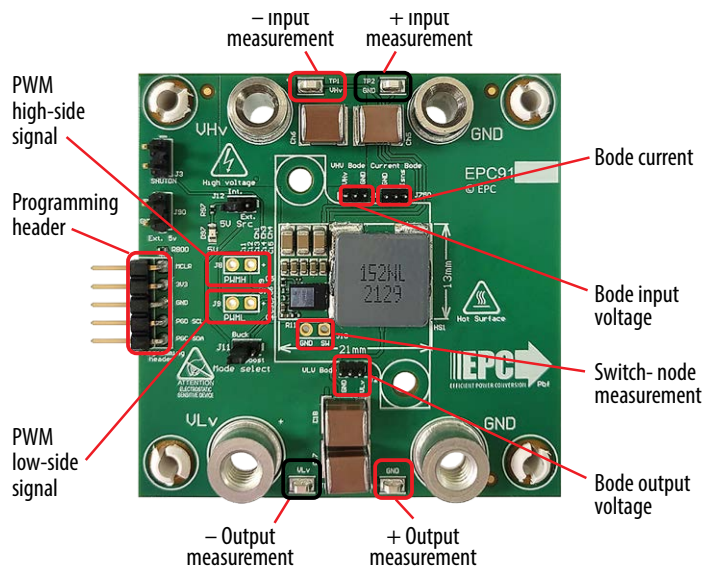

Figure 6: EPC91106 test point pad and hookup locations and designations.
Figures 6 and 7 show the various measurement connections of the EPC91106 evaluation board.
6. With power off, connect the various measurement probes as shown in figure 6 and 7.